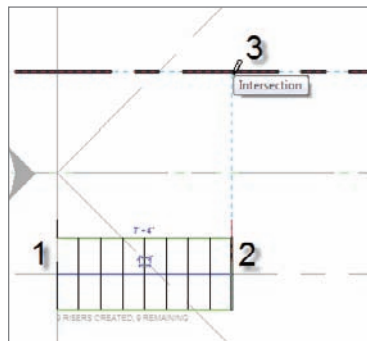

FIGURE 10.4 Adding the “L” shape to the stairs
9. Pick the intersection of the floor edge and grid 3.1 for the first point of the stairs. This spot is labeled “1” in Figure 10.4.
11. Once you see that nine risers have been created, with nine risers remaining, pick the spot labeled “2” in Figure 10.4.
12. Move your cursor straight up until you get to the grid intersection labeled “3” in Figure 10.4. Once you see this, pick the third point.